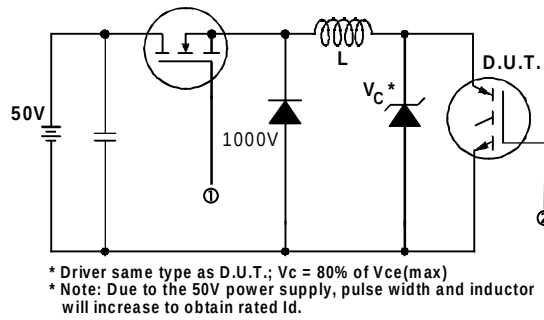

Fig. 13a - Clamped Inductive Load Test Circuit
- ② $V_{CC} = 80\%(V_{CES}), V_{GE} = 20V, L = 10\mu H, R_G = 5.0\Omega$, (See Fig. 13a)
- ③ Repetitive rating; pulse width limited by maximum junction temperature.
- ④ Pulse width $\leq 80\mu s$; duty factor $\leq 0.1\%$.
- ⑤ Pulse width $5.0\mu s$, single shot.